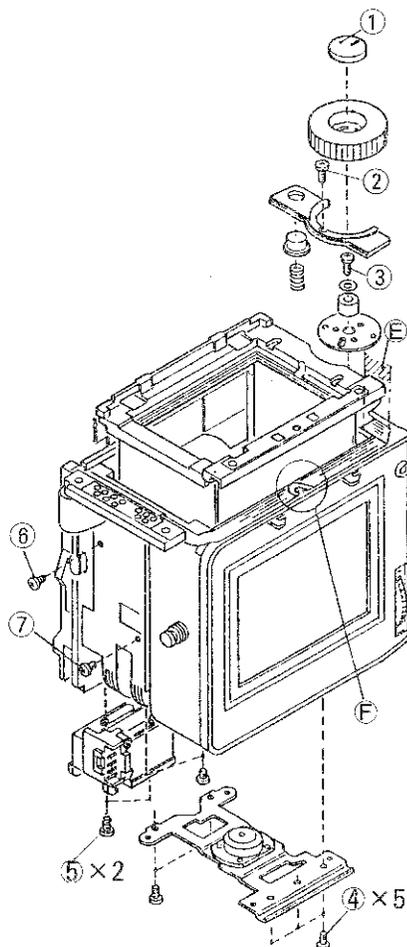

Fig. 40
1. Remove ① to ④ in the numerical order illustrated above, and get the mirror housing as well ready for removal. (Fig. 40)
3. Then, remove ⑤ to ⑨ and keep the mirror housing afloat, then separate black tape at part ⑤ and double-face-coated tape at part ⑥ to take out FPC plate. (Fig. 40)
Note: Bend a flexible part at part ⑥ toward the lens side. (Fig. 40)